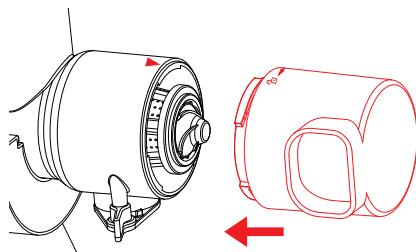

Рис. 5
4. Install the end lid (7) by aligning the slots on it with the slots on the chute (3). Rotating the lid (7) counterclockwise until bumping «A» (fig. 5 and 6).